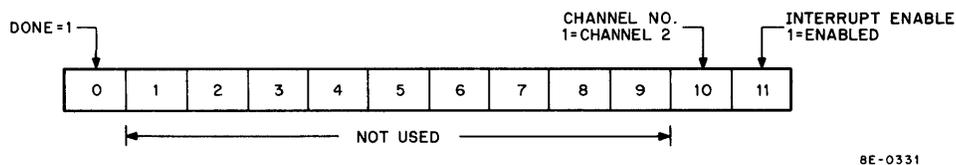
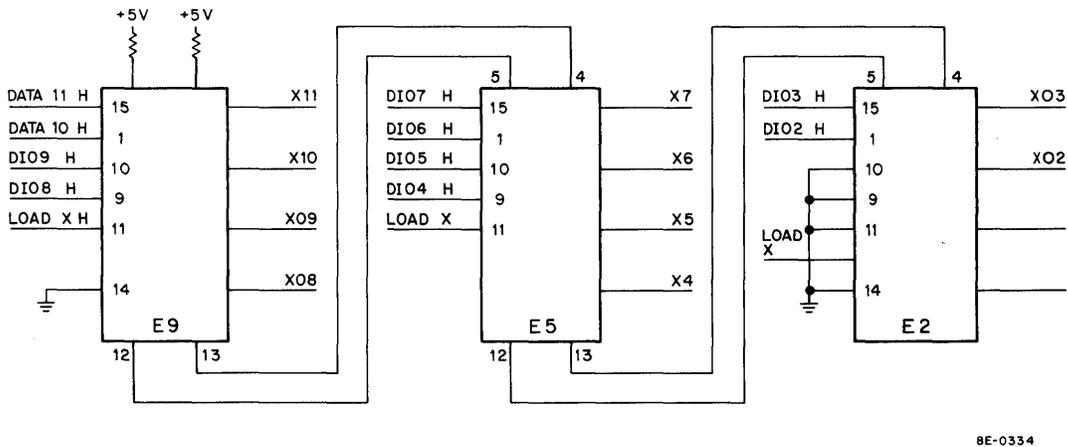
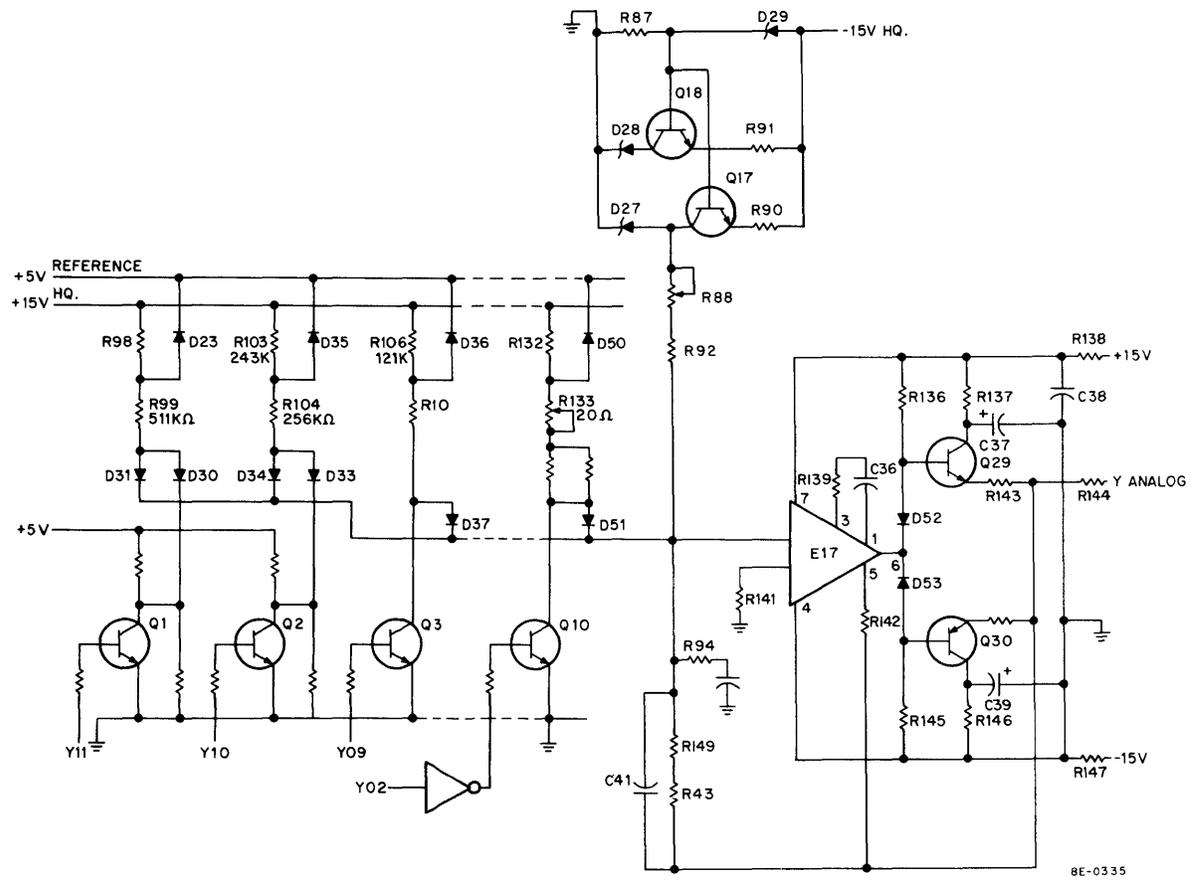

Figure 4-38 Enable/Status Register Word Contents
Figure 4-42 X-Axis Holding Register
Figure 4-43 Analog Switches and Summing Amplifier
4.4.2.5 Holding Registers – The X- and Y-axis Holding Registers (see Figure 4-42) will receive inputs from the Data Gates when the DILY and DILX instructions are executed, and will provide outputs to the analog switches. The Holding Registers consist of three 74193 ICs for each axis. (See Appendix A for the logic diagram and pin locations of the 74193 IC.) Figure 4-42 shows only the X Holding Register, but the Y Holding Register is identical. The LOAD X or LOAD Y generated by DILX or DILY (see Figure 4-38) will enable gates in the IC to load bits 02–11 into the Holding Register. The output of the Holding Register will be applied to the analog switches (see Figure 4-43).
4.4.2.6 Analog Switches and Summing Amplifier – The analog switches, weighted resistors, and summing amplifier will receive 10 digital bits as input and will supply a ± 5 Vdc output (see Figure 4-43). The digital input will turn on or cut off the switches which supply current to the summing junction. The summing junction is tied to the input of E17. The sum of the currents supplied by the analog switches will produce a voltage on the output of the summing amplifier which is proportional to the contents of the Holding Register.
The analog switches (see bit 11 in Figure 4-43) supply current from the +5V reference to the summing junction through D3 when a low input is applied to the base of Q1. The current supplied will be determined by the resistance of the weighted resistor R99. The current produced by turning off Q1 and allowing D31 to conduct will be approximately $5V/R_w$; R_w being the value of R99. D30 and D33 are added to the least-significant bit positions to isolate the transistor capacitance from the summing junction. When a high input (1) is applied to Q1, the transistor will cut off D30 and all the current will flow through the transistor to ground.